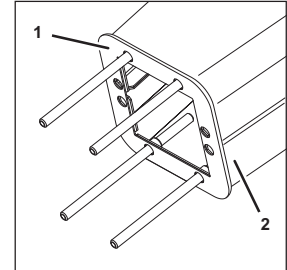

Fig. 4
2. Position the gasket (Fig. 4/1) on the stand (Fig. 4/2) of the unit.